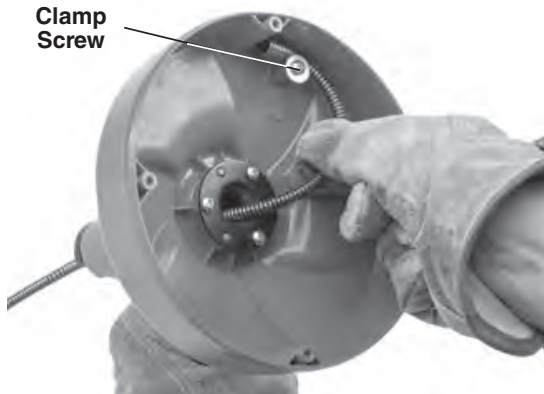

Figure 11 – Securing Cable End
4. Remove cable clamp screw. Remove existing cable (*Figure 11*).
7. Place cable end as shown inside drum (*see Figure 11*), and secure with cable clamp screw.